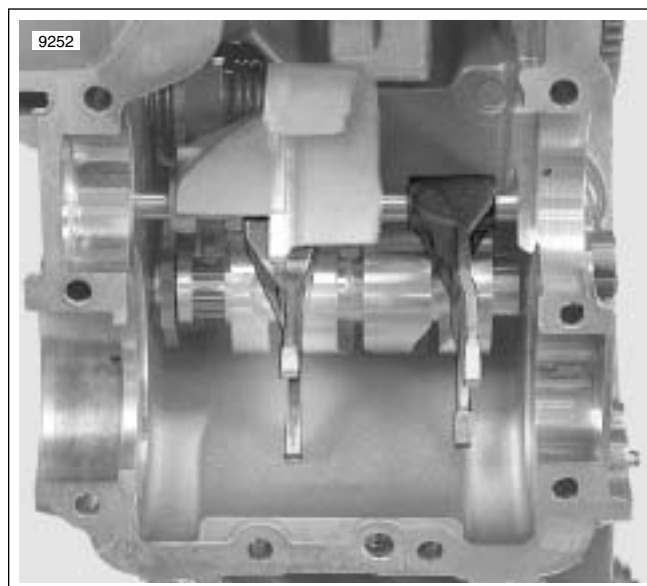

Figure 3-130. Shifter Fork Orientation
3. See Figure 3-130. Shifter forks must be positioned as shown.